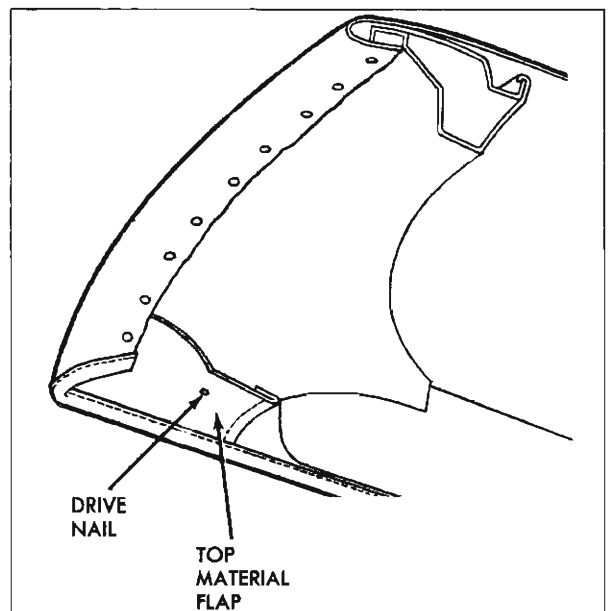

Fig. 21-29 Top Material at Front Rail
4. Loosen front end of each side roof rail front weatherstrip sufficiently to detach top material flaps which are nailed and cemented to rails (Fig. 21-29).